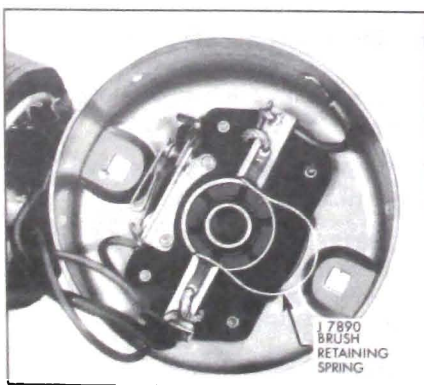

Figure 10-121—Installing Brush Retaining Spring
6. Pull the armature out of the case and install Brush Retaining Spring J-7890 as shown in Figure 10-121.